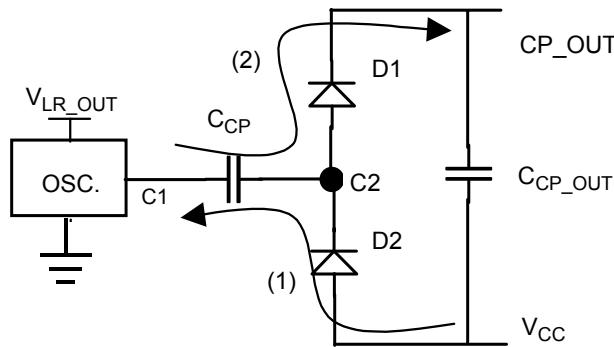

Figure 6. Charge Pump Basic Circuit
The charge pump generates the high-side driver supply voltage (CP_OUT), buffered at C_{CP_OUT} . Figure 6 shows the charge pump basic circuit without load.
When the oscillator is in low state (1) in [Figure 6], C_{CP} is charged through $D2$ until its voltage reaches $V_{CC} - V_{D2}$. When the oscillator is in high state (2), C_{CP} is discharged through $D1$ in C_{CP_OUT} , and final voltage of the charge pump, V_{CP_OUT} , is $V_{CC} + V_{LR_OUT} - 2V_D$. The frequency of the 33883 oscillator is about 330 kHz.